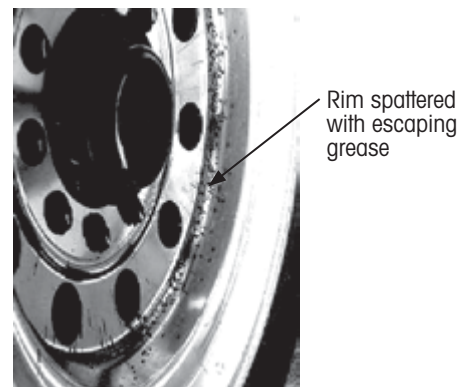

Figure 21: Wicking hubcap gasket example
- Streaks of grease on outer rim and outside surface of tyre (Figure 21). Most likely grease leaking past hubcap gasket.